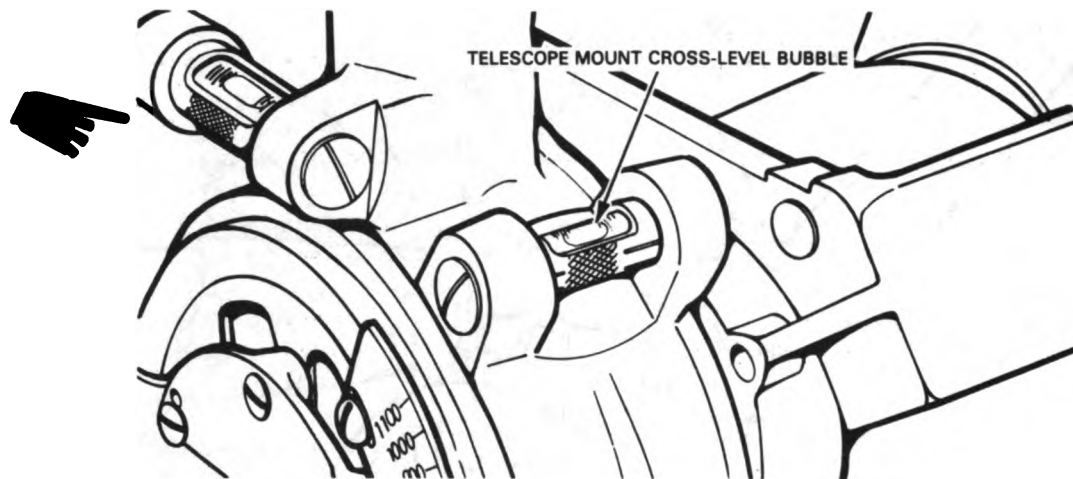

**Figure 80.8. Level bubble on quadrant with gun tube at 800 mils.**
- (d) Elevate the gun tube to 800 mils and observe the level bubble (fig. 80.8) on the quadrant. If the quadrant bubble leaves the centering graduation marks on the vial, then make a note of the distance it traveled in grads at 800-mil elevation.